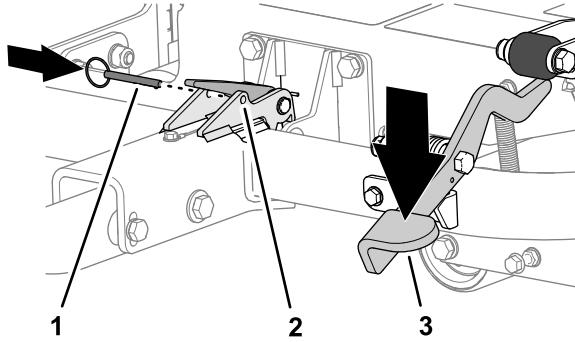

Figure 19
4. Insert the locking pin through the holes in the latch (Figure 19).
3. Step on the hitch pedal until the hitch locks into place (Figure 19).